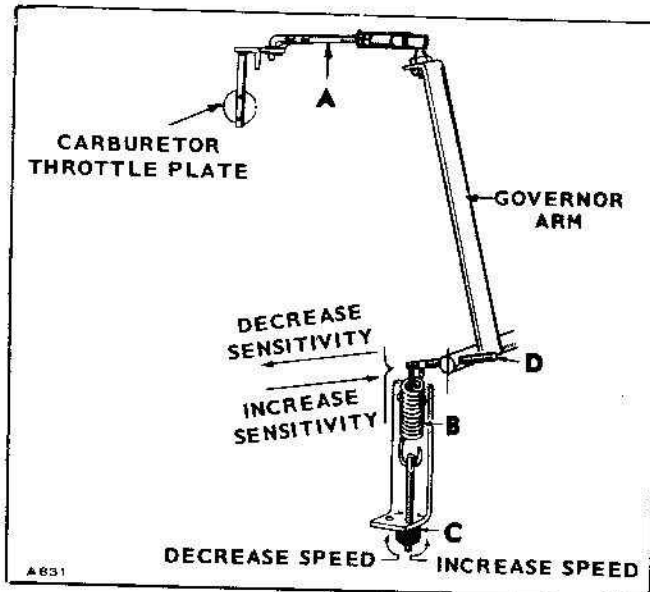

FIG. 3-1
With the plant stopped, the length of linkage A must (with tension on spring B) allow the carburetor throttle stop lever to just clear (maximum 1/32-in.) the carburetor body (Fig. 3-1). Alter linkage length by turning the ball joint on the threaded rod. Run the plant (under load) to thoroughly warm it up.
1. **Alternating Current Plant:** Connect a voltmeter across the generator output. With the plant operating at no-load, adjust the speed nut C (Fig. 3-1) for a voltmeter reading of 126-volts for 120-volt plants (252-volts for 240-volt plants). Voltage should not fall below 108-volts for a 120-volt plant (216-volts for a 240-volt plant) under full rated load.
3. **Battery Charging Plant:** Turn speed nut C (Fig. 3-1) to give the desired charge rate. Normal speed, as specified on the nameplate, is approximately 2400 rpm. If the charge rate tends to "taper off" too soon, turn the sensitivity screw D clockwise. If the charge rate is unsteady, turn the sensitivity screw D counterclockwise.